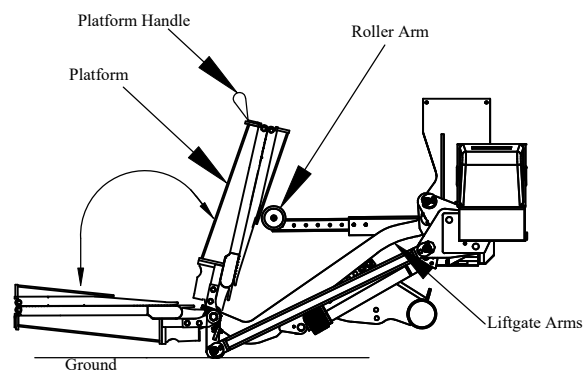

Figure 7: Step 12.
- Step 12. With the liftgate arms touching the ground, stand to the side of the platform, and fold the platform closed until it rests on the roller arm (Figure 7).